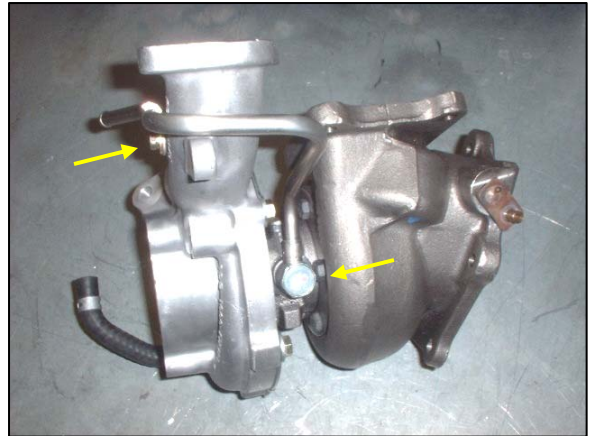

Fig. 28
31. Install the longer OE hard water line on the back of the turbocharger's center housing. Use the OE banjo bolt and 2 new 14mm copper crush washers supplied with the kit. Leave the banjo bolt loose initially. The water line wraps around the compressor housing outlet and is secured with one bolt into the housing. Install this bolt and torque to 6-8 lb-ft (72-98 lb-in / 8-11 N-m). Then tighten the banjo bolt to 26-36 lb-ft (35-49 N-m). Bolt locations are shown by arrows in figure 28. The actuator is not shown for clarity (2 bolts, 10mm socket, 22mm socket).